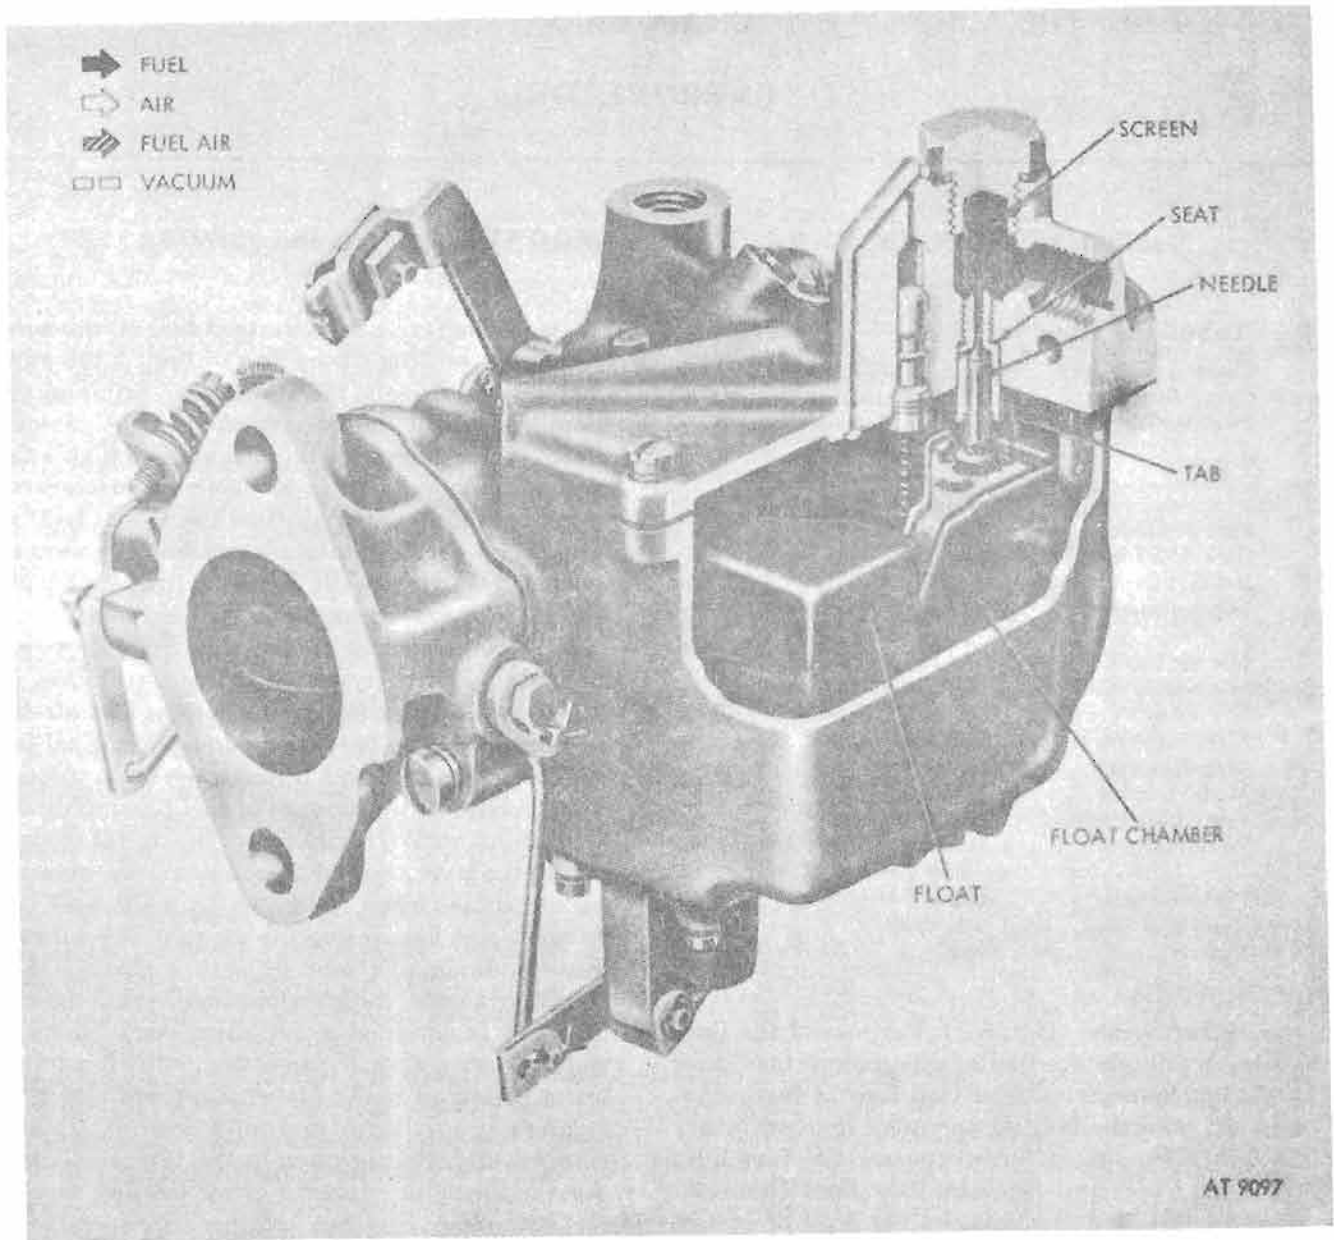

Figure 5-1. Float system.
a. Float System (fig. 5-1). Purpose of the float system is to maintain fuel at a predetermined level in the float chamber. A regulated flow of fuel under pressure from the fuel pump enters the carburetor through a fine mesh screen, passes the fuel inlet needle and seat and flows into the float chamber. The fuel flow is determined by the level of fuel in the float chamber. As the level goes down, the carburetor float goes down, thereby allowing the needle to unseat and fuel to enter. As the fuel level rises, the float rises, raising the needle valve which reduces the fuel flow into the float chamber. When